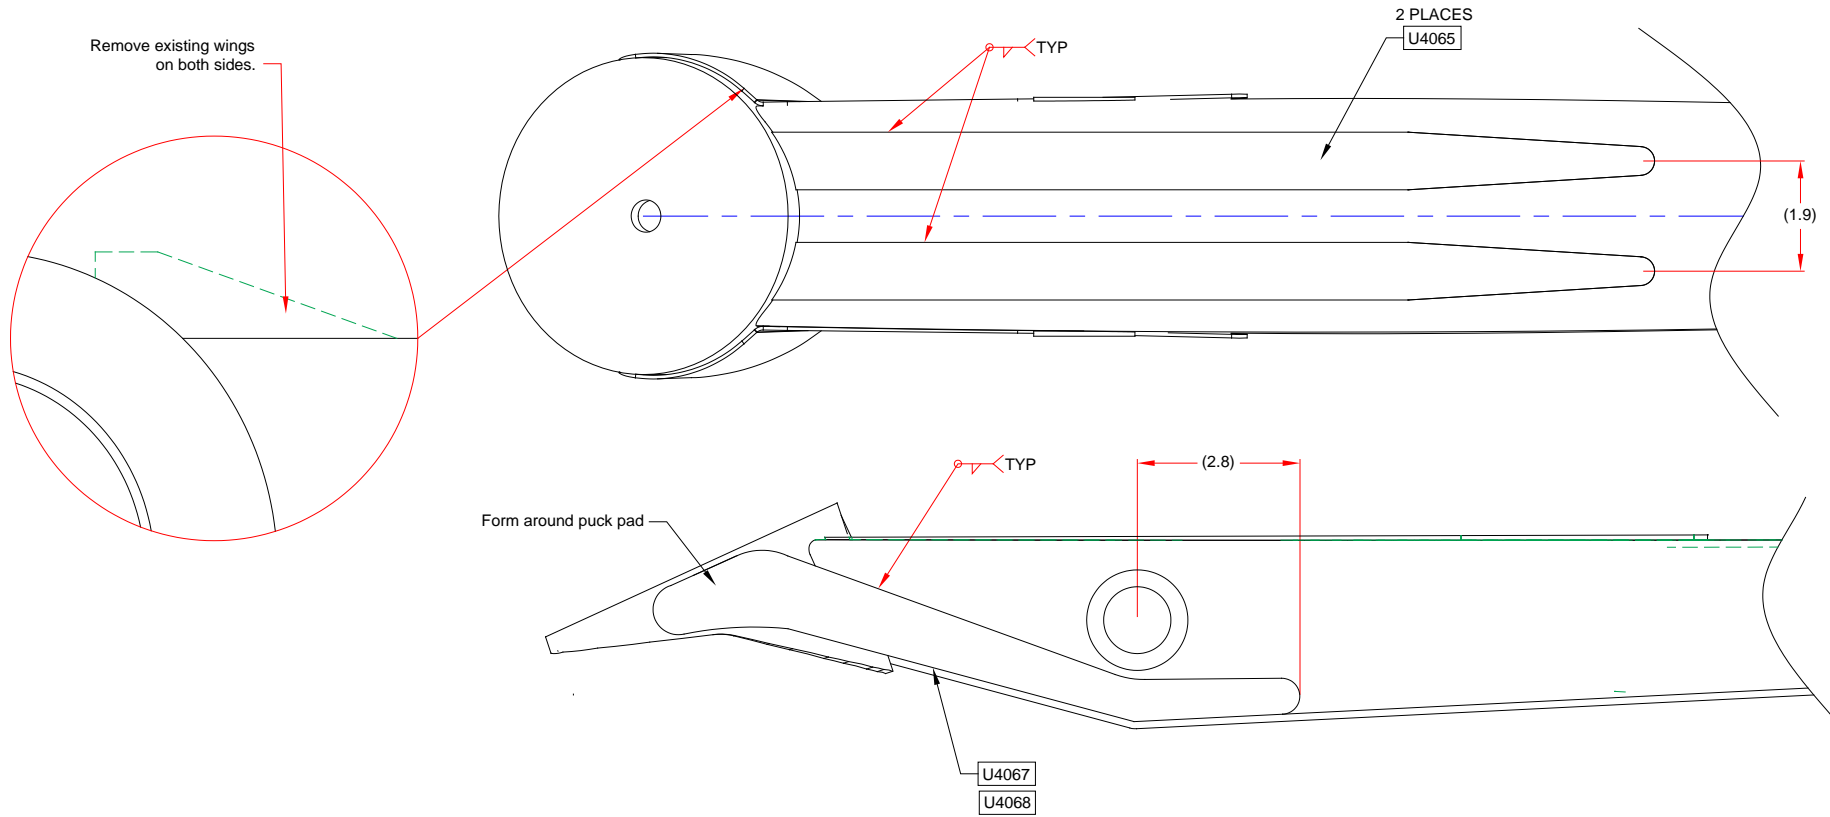

Figure 3 Upper Leg Reinforcement Detail
7. Locate and weld reinforcing straps per Figure 3.